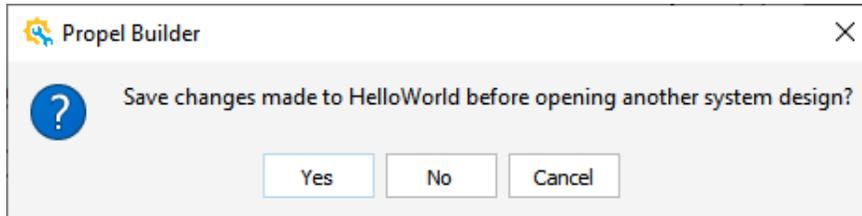

Figure 2.104. Propel Builder Dialog Box
- Click **Switch Verification and Soc Design** icon  from Propel Builder GUI Toolbar. Propel Builder dialog box opens (Figure 2.104) if a project is not saved.